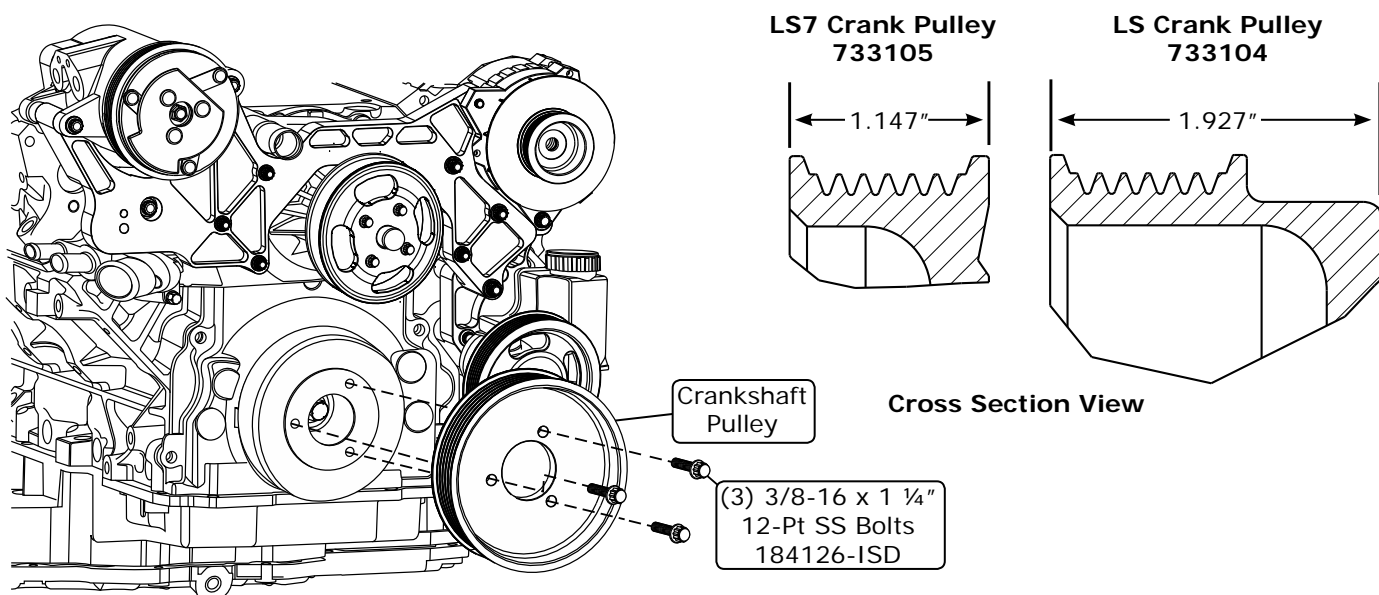

Figure 10
1. Install the crankshaft pulley onto the damper using (3) 3/8-16 x 1 1/4" bolts as shown in Figure 10, below.